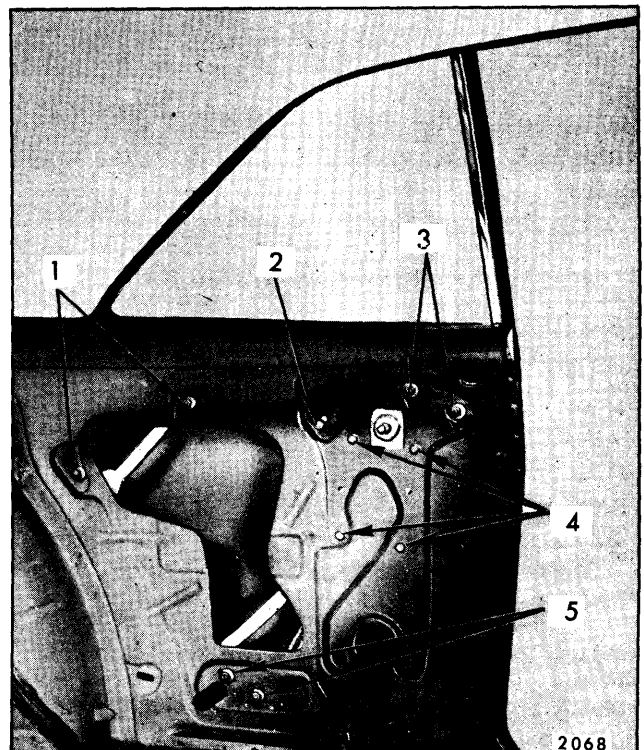

Fig. 7-48—Rear Quarter Hardware - "Z" Styles
2. On "Z" styles, remove front guide upper and lower adjusting stud nuts (see Figs. 7-48 and 7-49, which are typical of "Z-37, 67" and "E-87" styles).
2. As shown in Figures 7-48 and 7-49 and all phantom views, rear guides are retained by two bolts or adjusting studs. By providing a minimum of support for rear quarter window, these bolts or stud nuts can be removed and the guide disengaged from glass roller.